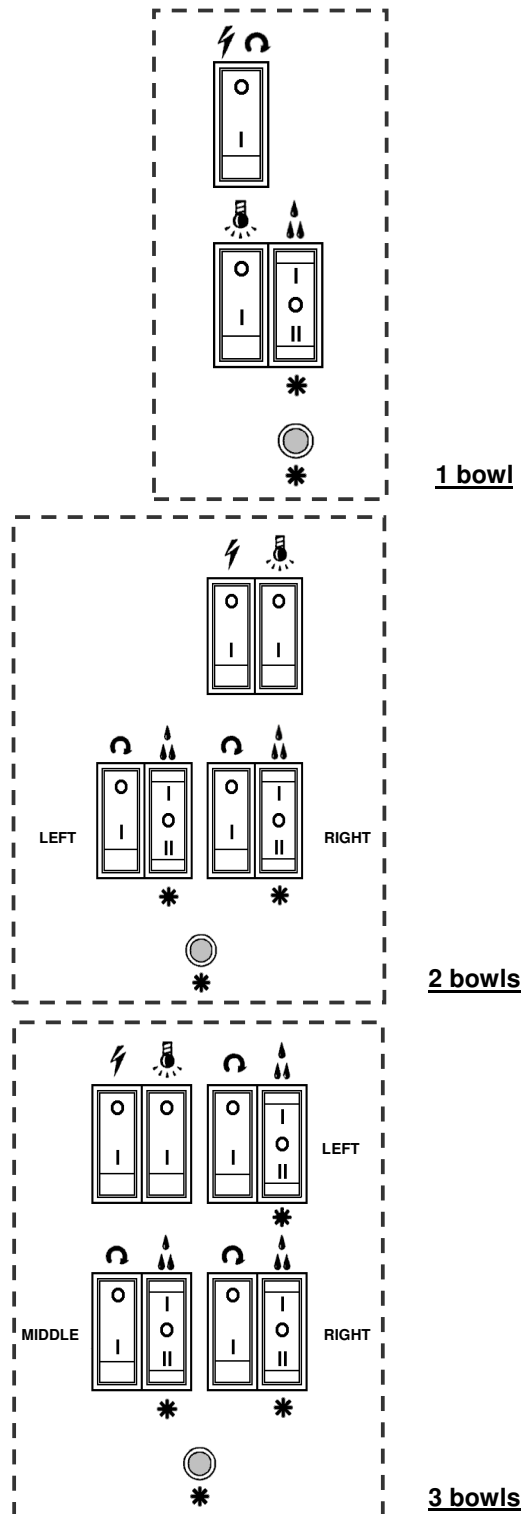

Figure 12
4. To operate, press main power switch and agitator switch to **ON** position (Figure 12). **NOTE: The agitator switch must be to ON position before setting to liquid or slush mode.**